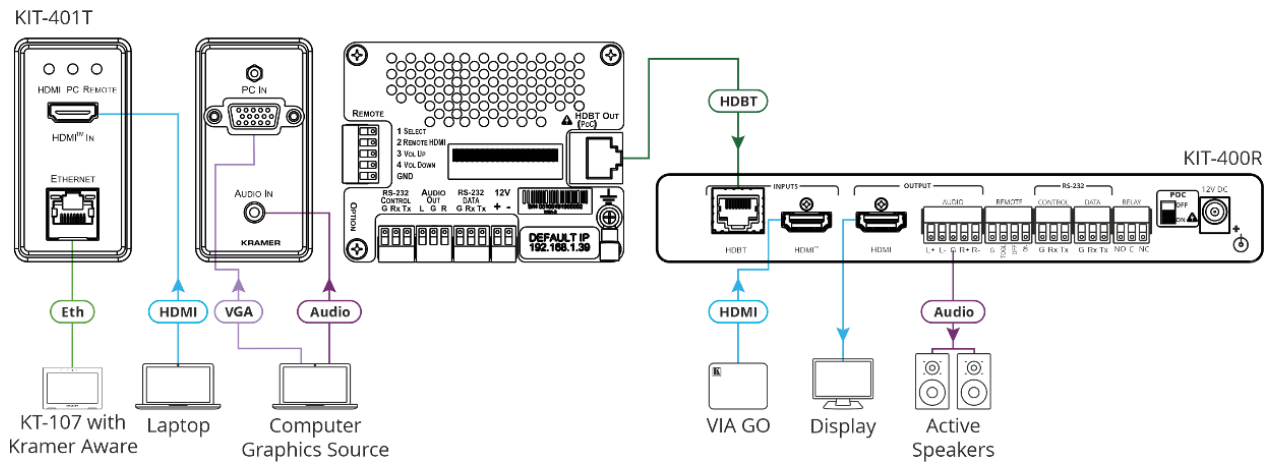

Figure 3: Connecting to the KIT-401
To connect KIT-401 as illustrated in the example in Figure 3:
8. Connect the power adapter to one of the devices (**KIT-401T** or **KIT-400R**) and to the mains electricity (not shown in Figure 3).